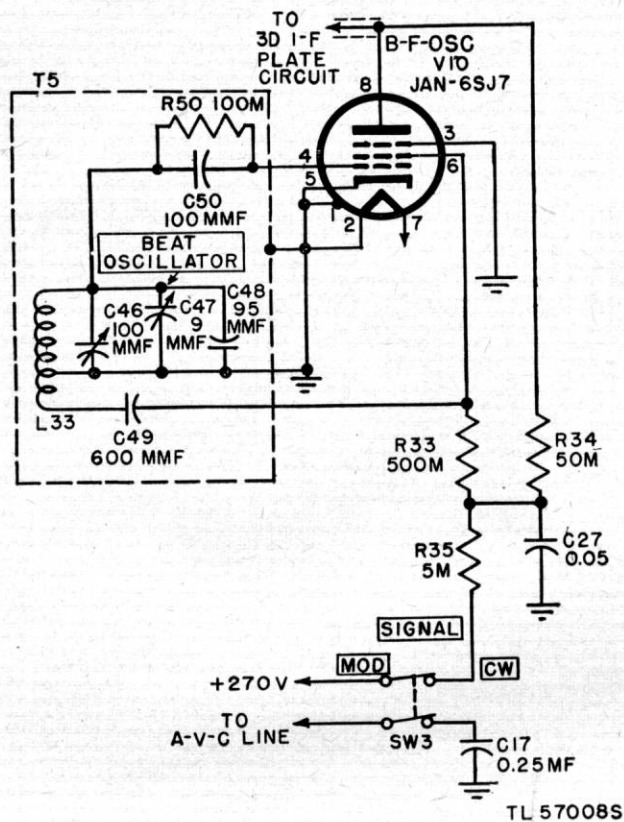

Figure 32. Radio Receiver BC-779-B, functional diagram of beat-frequency oscillator.
66. Beat Frequency Oscillator (fig. 32)